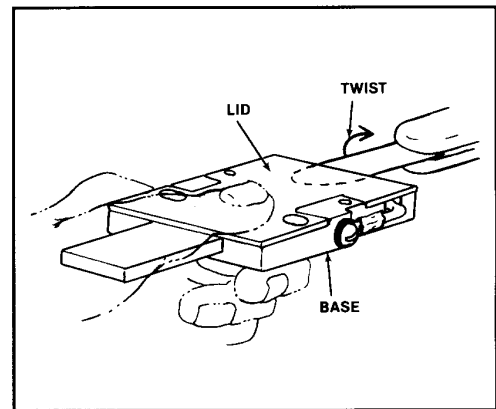

Figure 19a - Removing Glued Lid
1. Remove brush module lid by removing the screw and nut. (The lids of earlier constant force modular assemblies were bonded to the base. To replace the springs and brushes in these, carefully pry the lid from the base using a flat knife and/or MEK to weaken the bond, as shown in Figure 19a.) Remove the brush and springs.